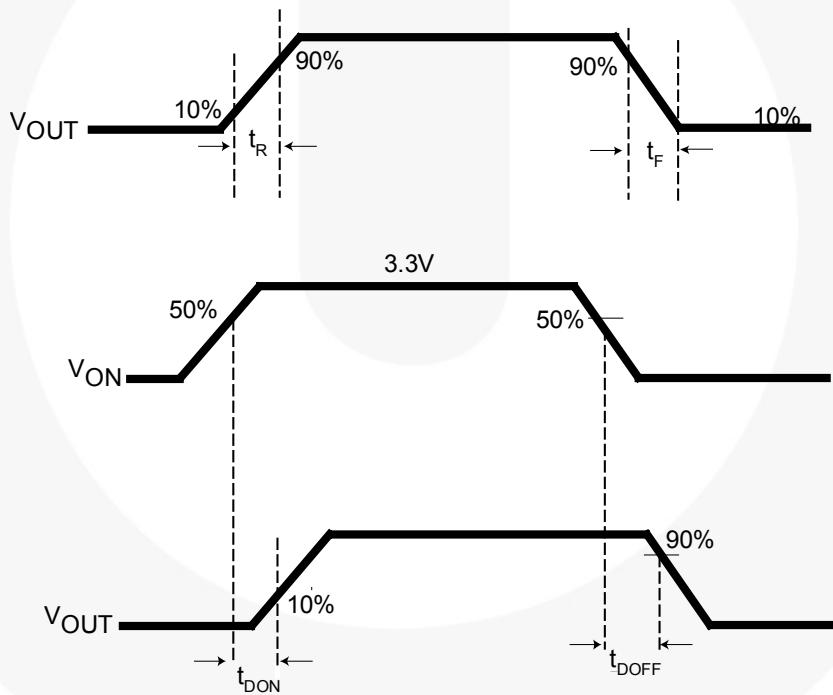

Figure 25. Timing Diagram
6. $t_{DON}/t_{DOFF}/t_R/t_F$ are defined in Figure 25.